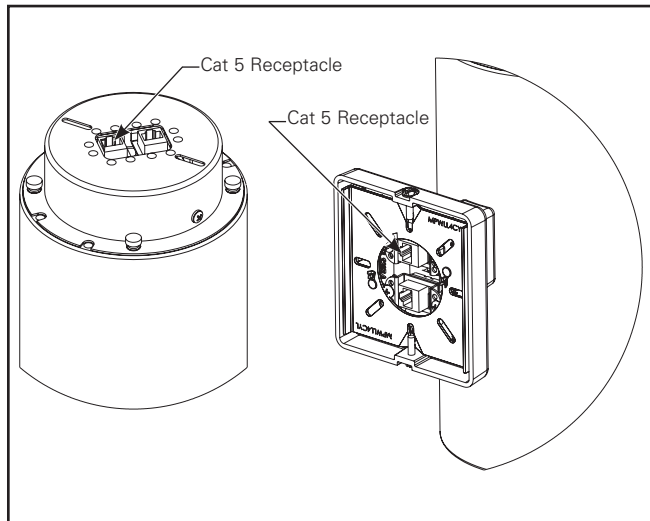

Figure 8.
1. Locate Cat 5 receptacles. For ceiling mounted cylinders receptacles will be in the cylinder top, and wall mounted cylinders will have the receptacles will be in the wall mount arm. (Figure 8.)